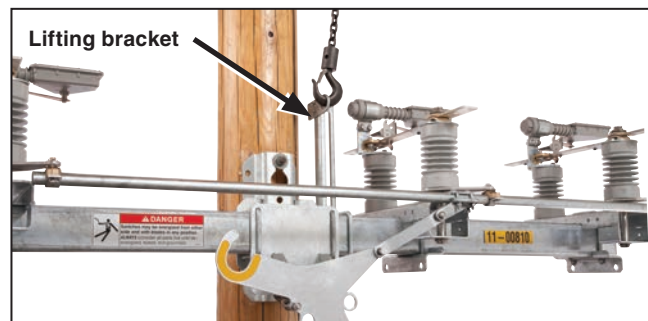

Figure 4. Hoisting the Omni-Rupter Switch into position, upright mounting configuration.
Switches in the upright, upright with extra mounting pole clearance, and inverted mounting configurations are provided with a single-point lifting bracket that is permanently attached to the switch base. This lifting bracket is retractable on switches in upright mounting configurations. See Figure 4 on page 10.
Switches in the upright mounting configuration are provided with a retractable single-point lifting bracket permanently attached to the switch base. See Figure 4.
- (c) Lift the switch as shown in Figure 4 until the lifting slings are just taut.